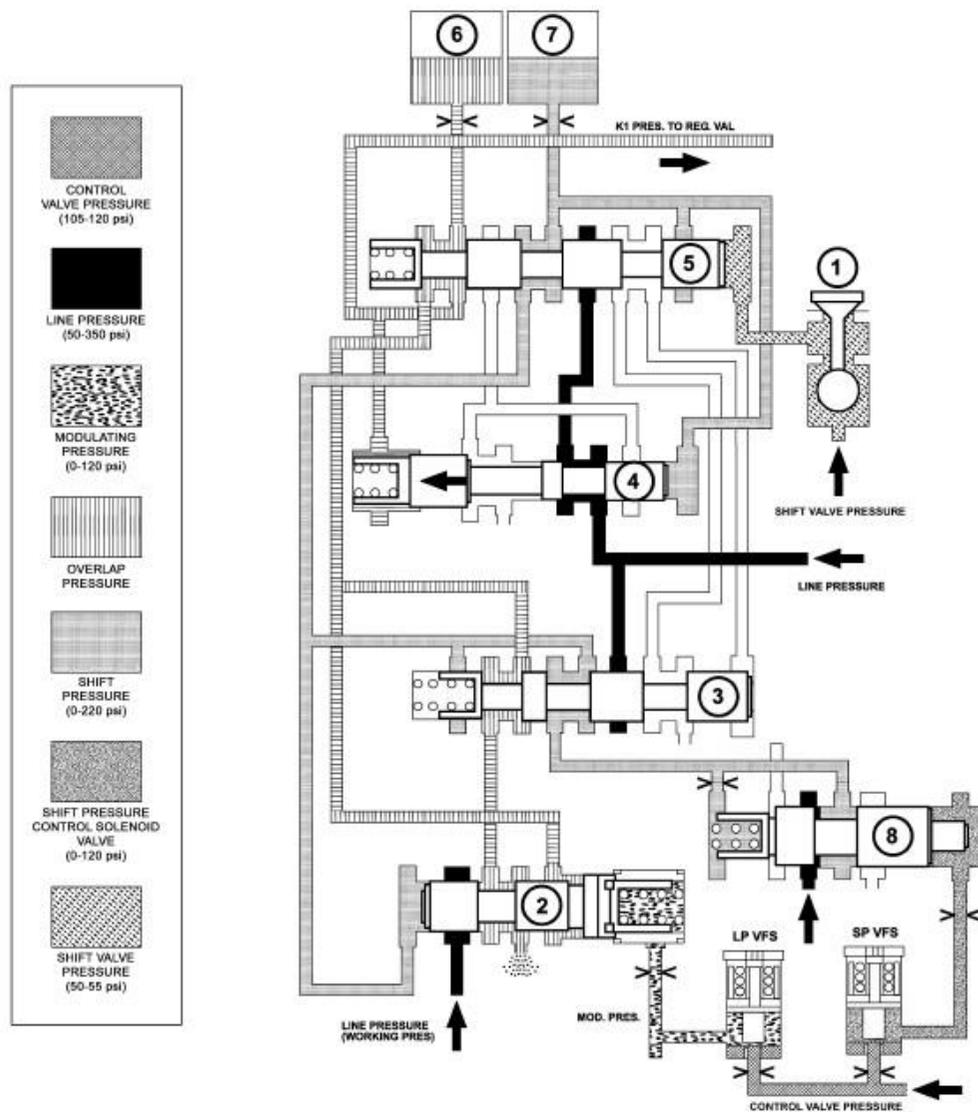

Fig. 21: Shift Phase - 2-1 Shift Phase 2
The pressure in clutch B1 (7) acting on the end face of the 1-2/4-5 holding valve (4) forces the valve to up-shift against the spring pressure and allows line pressure (p-A) to pass through the command valve (5). Refer to Fig. 21.